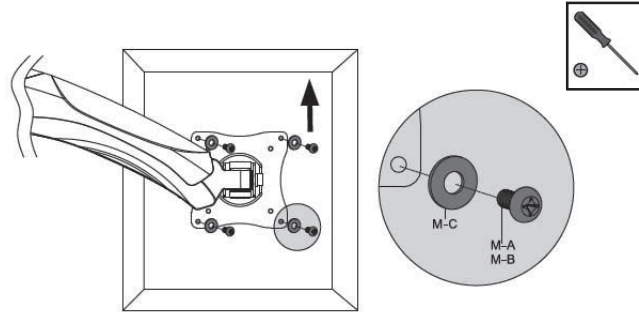

Figure 8
2. Mount the monitors to the Extension Arm Vesa plate, using Washer (M-C) and either M4x12 bolt (M-A) or M5x12 bolt (M-B) and tighten it using a Phillips screwdriver, see Figure 8.